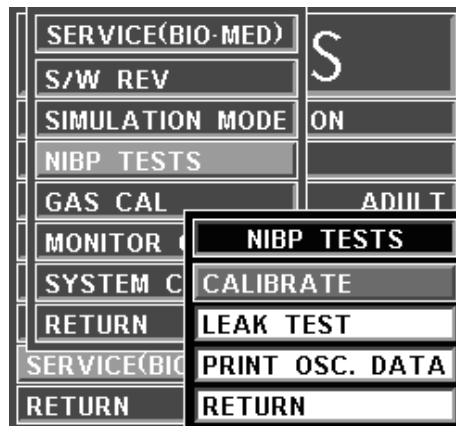

Figure 3-15. NIBP TESTS Menu
- (c) **NIBP TESTS.** Selecting this menu option will bring up the **NIBP TESTS** Menu (See Figure 3-15).